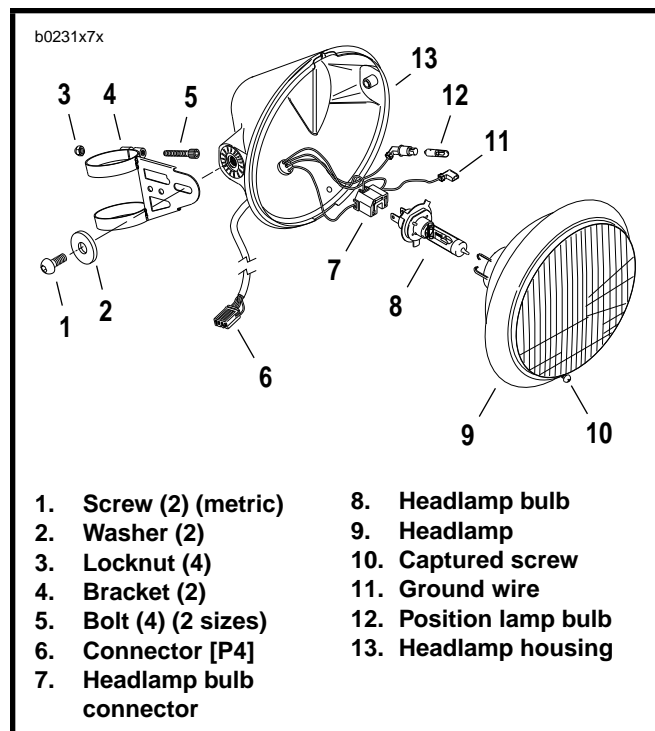
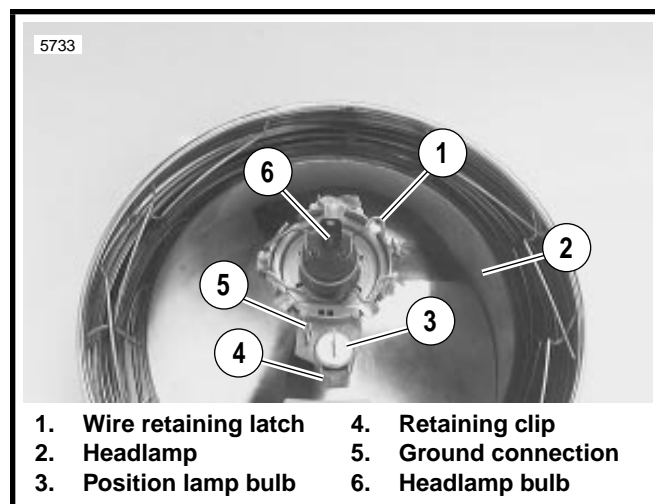

Figure 7-32. Headlamp Assembly
Figure 7-33. Headlamp Bulbs
1. See Figure 7-32. Loosen screw (10) at bottom of headlamp.
2. Pry headlamp (9) from headlamp housing (13).
3. See Figure 7-33. Press retaining clip (4) and remove position lamp bulb (3) from headlamp. Twist bulb to remove from harness.
1. See Figure 7-32. Remove screw (1) (metric) and washer (2) on each side.
- c. See Figure 7-32. Remove four bolts (5) and locknuts (3).
- d. Remove front forks and headlamp brackets (4). See FRONT FORK, REMOVAL in Section 2.
- b. See Figure 7-32. Install four bolts (5) and locknuts (3). Wire guide and two washers go on lower bolt on right headlamp bracket. Place wires into wire guide.
3. See Figure 7-32. Install headlamp housing using two screws (1) (metric) and washers (2). Tighten to 6-8 ft-lbs (8.1-10.8 Nm).
1. See Figure 7-33. Install headlamp bulb (6).
- b. Close the wire retaining latch (1).
2. Insert position lamp bulb (3).
3. Connect ground wire (5).
4. See Figure 7-32. Place headlamp in housing (13). Tighten screw (10).